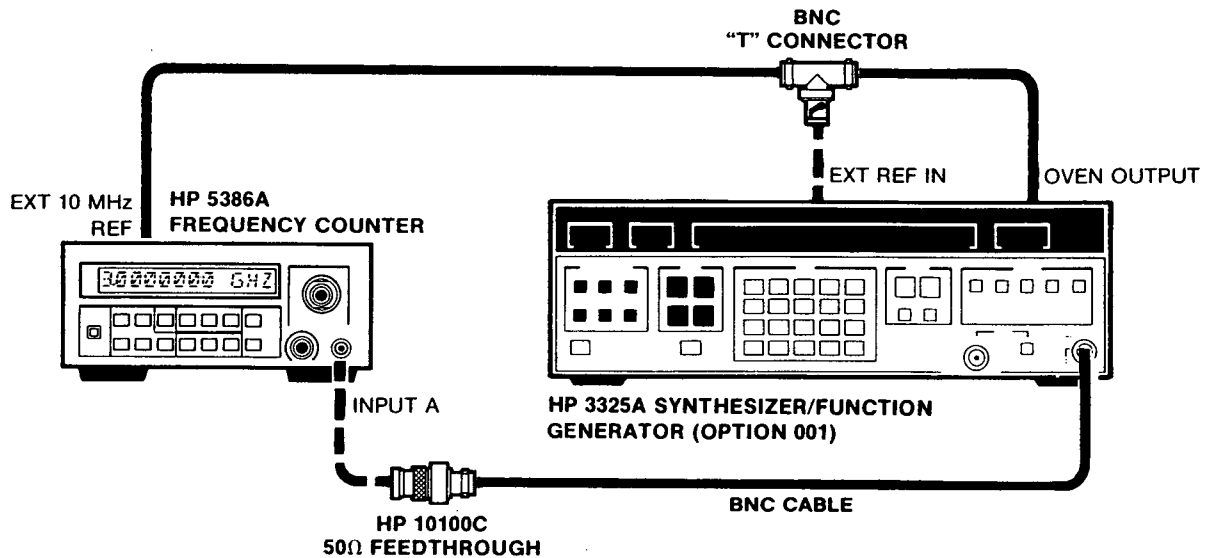

Figure 4-5. Channel A Filter and Attenuator Test Setup
- b. Connect the HP 3325A Synthesizer/Function Generator to the HP 5386A Channel A input as shown in Figure 4-5.